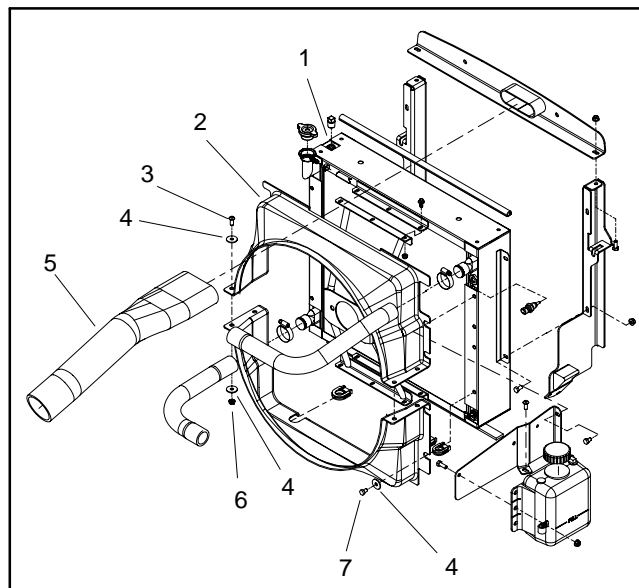

Figure 70
4. Remove air cleaner hose and upper radiator shroud to allow easier access to hydraulic fan motor (Fig. 70).
2. Carefully position fan motor to fan motor bracket. Loosely attach motor to bracket with cap screws (item 20), flat washers (item 21) and lock nuts (item 14).
5. Thoroughly clean tapered surfaces of fan motor shaft and fan hub. Position fan hub (with fan attached) onto motor shaft and secure with washer (item 8) and hex nut (item 9). Torque nut from **27 to 33 ft-lb (37 to 44 N-m)**.
6. Install upper radiator shroud and air cleaner hose (Fig. 70). Make sure that clearance between shroud and cooling fan is at least 0.180" (4.6 mm) at all points.